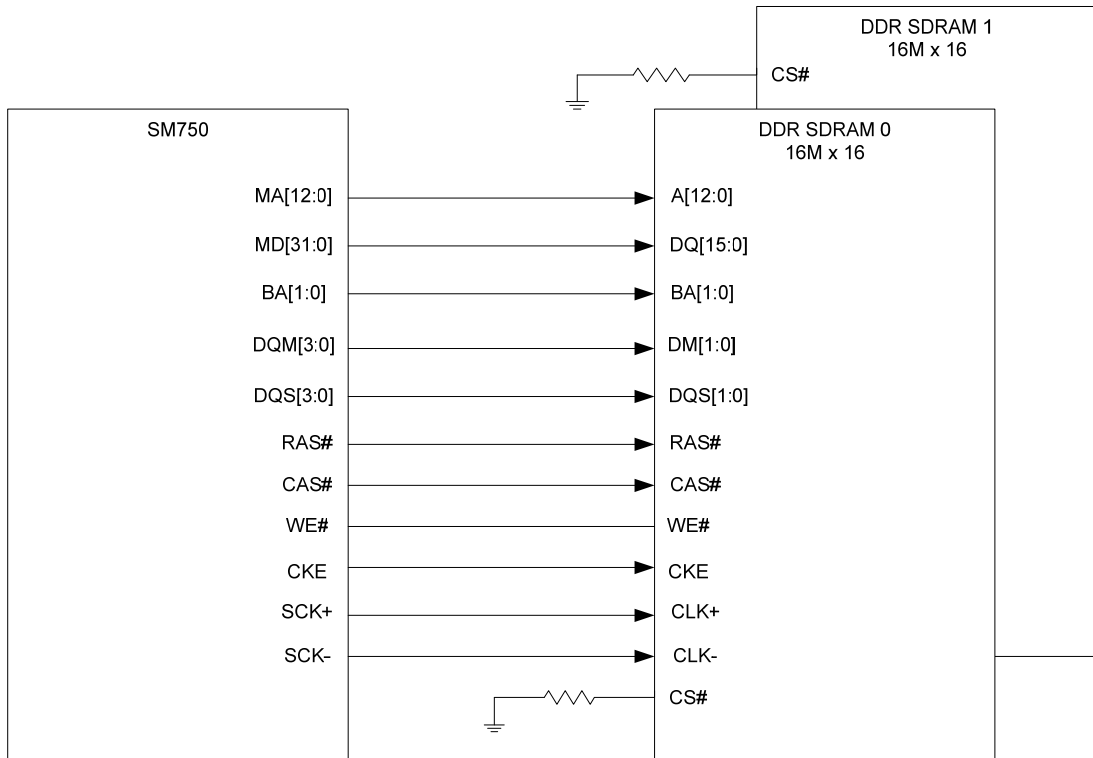

Figure 6: Typical DDR Memory Setup
Figure 6 shows the three possible memory setups. (A) 32-bit embedded DDR memory, (B) 32-bit external DDR memory, and (C) 64-bit external DDR memory setups.